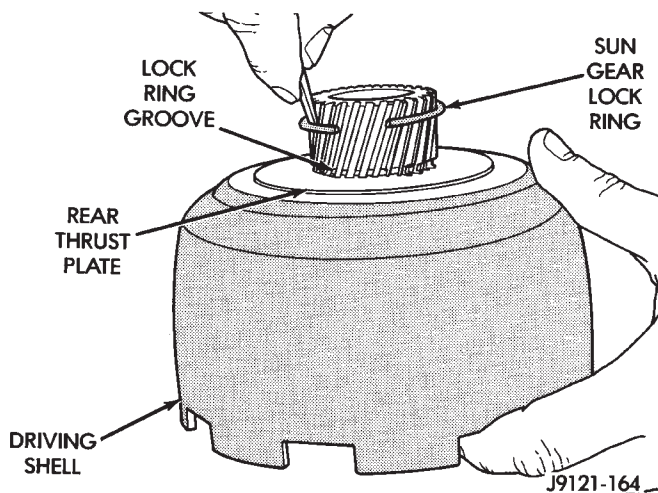

Fig. 87 Installing Sun Gear Lock Ring
(11) Align rear thrust plate on driving shell and install sun gear lock ring. Be sure ring is fully seated in sun gear ring groove (Fig. 87).